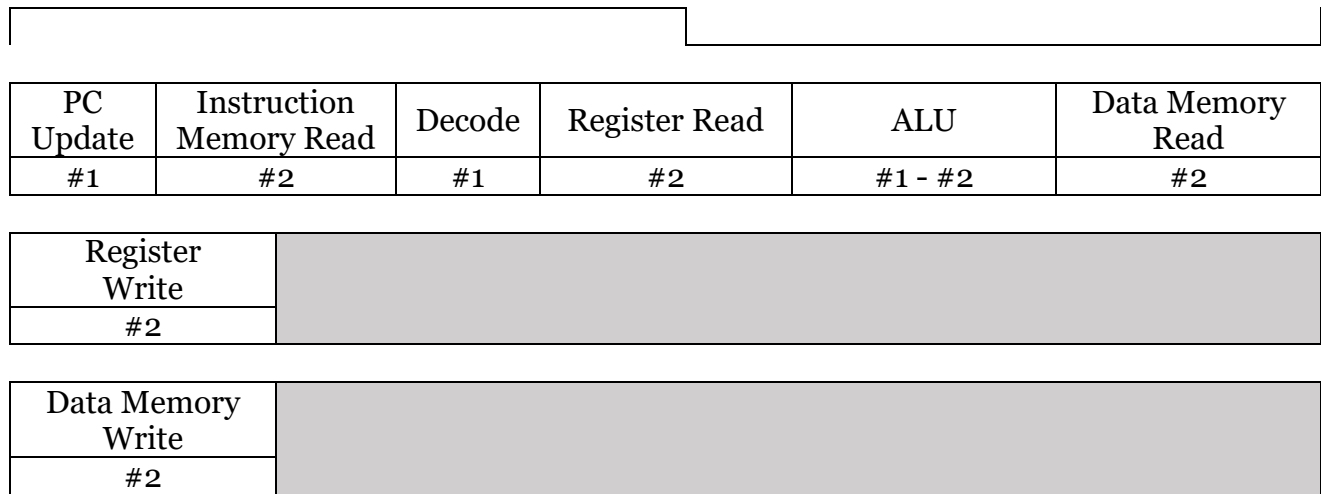

Figure 4: Timing Details for the Datapath
The diagram given in Figure 4 shows the overall timing of your single-cycle CPU. One clock spans for ten (10) time units duration, rising edge to rising edge. Every instruction should complete within one clock cycle, and any data to be written to the register file should be ready by the rising edge at the end of the clock cycle. Writing to registers and PC should be synchronized to rising edges of the clock, while reading of registers should happen asynchronously. The given timing delays should be artificially added to the corresponding operations in order to realistically simulate the latencies observable in a synthesized datapath. For the sake of simplicity, we will be assuming that our multiplexers, 2's complement unit, and wires have negligible delays.